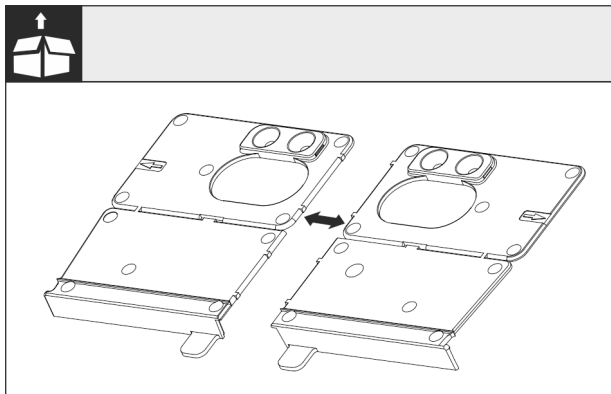

Fig. 27
- ▶ Separate the floor mounting bracket Fig. 27 (I) at the perforation.